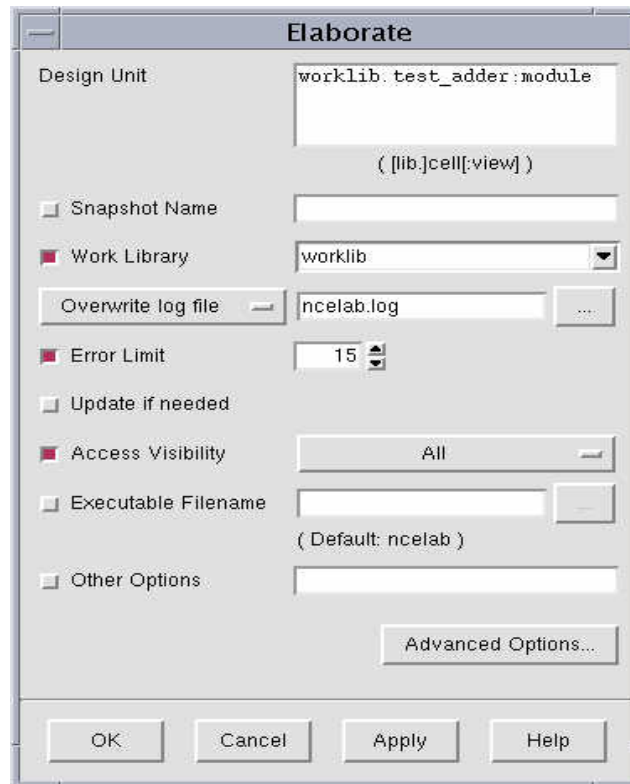

Figure 3-10 Elaborate Form.
4. Choose **Tools→Elaborator** to open the **Elaborate** form which is shown in figure 3-10.